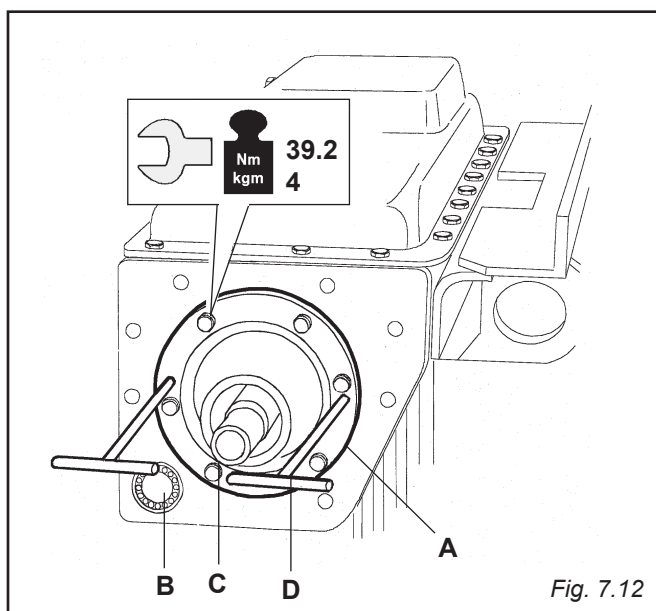

Fig. 7.12
7.10 REAR MAIN BEARING CARRIER AND CRANKSHAFT AXIAL PLAY (FIG. 7.12 - 7.12a)